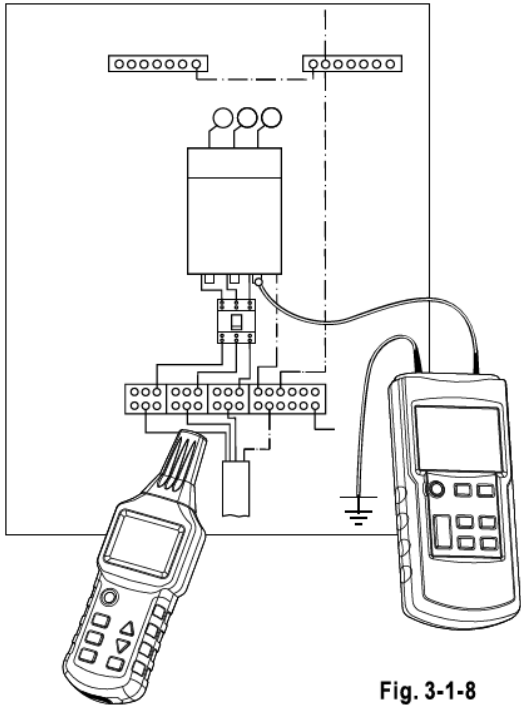

Fig. 3-1-8
- 3) Connect the transmitter as shown in Fig. 3-1-8.